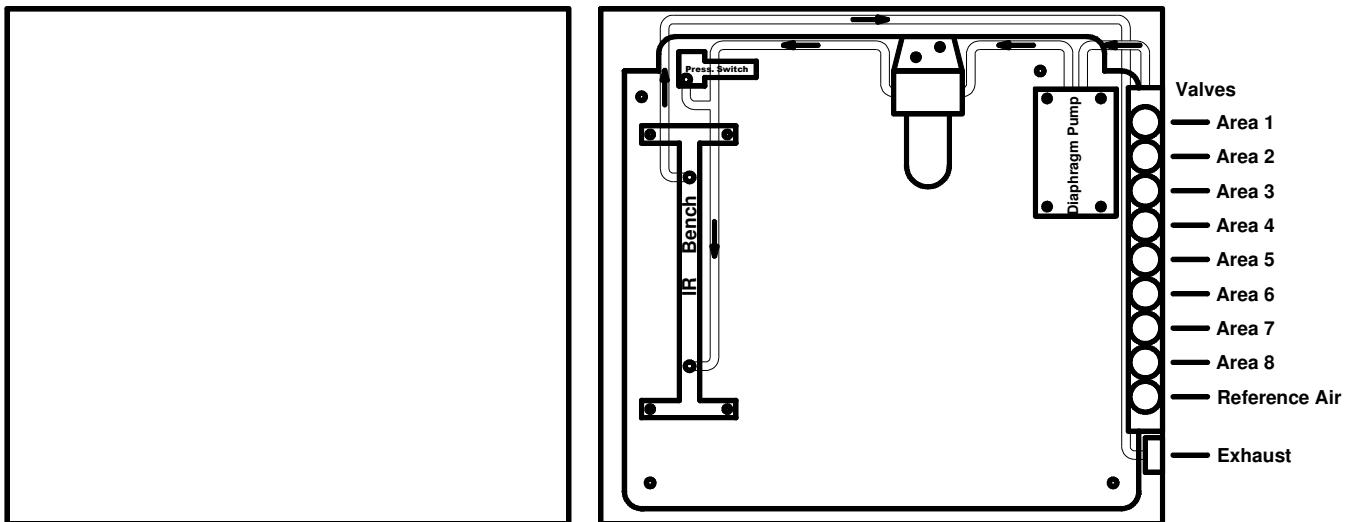

Figure 2 Pneumatics Diagram
**Pneumatics:** Refer to the figure 2 for pneumatics block diagram. Tubing from the areas to be monitored and from a reference air source (either fresh, outside air, or interior conditioned air that is free of refrigerants) is connected to the valve manifold. The MCD1 has a single sample valve and a reference valve, for a total of two valves. The MCD4 has four sample valves, the MCD8 has eight and the MCD16 has 16, for a total of five, nine and seventeen valves respectively. The electronics alternates between energizing the Sample air and the Auto zero air valves. Following an Auto zero cycle, the pneumatics will be switched to the next sample valve in order. The diaphragm pump draws air from the selected inlet and feeds the air through a five micron filter, through an orifice restrictor, through the infrared bench and to the exhaust port located on the lower right side of the unit. The pressure switch monitors the pressure created by the flow from the pump and the restriction created by the orifice. Should pressure fall, a flow failure is detected, and signal is sent to the electronics.